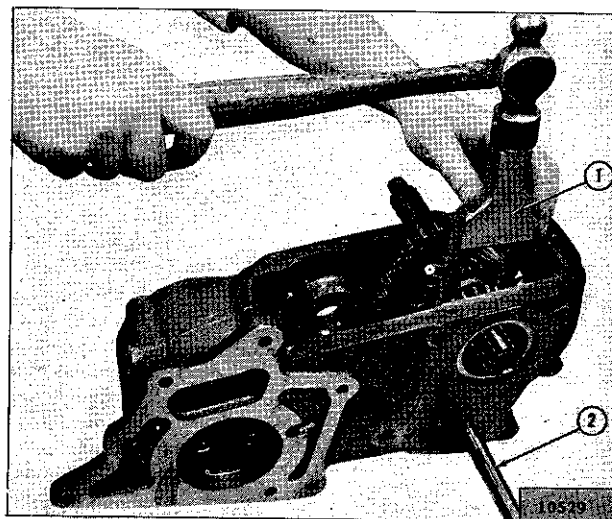

FIG. 225—BEARING CONE REMOVING WEDGE
bearing cup from the case. Use Tool W-139, as shown in Fig. 225, to wedge the front bearing cone and roller assembly from its seat on the shaft. Place Tool W-141 on the output shaft between the front bearing and the output shaft gear, (43). Use a rawhide hammer to drive against the rear end of the output shaft to remove the front bearing cup from the case. Loosen the snap ring (41) and slide it forward on the shaft. Drive the shaft through the rear of the case. As the shaft is removed; the gears, snap ring, and thrust washer will remain in the case and can be removed from the bottom. Remove the rear bearing cone and roller assembly from the shaft by striking the end of the shaft lightly against a wooden block.
j. Remove set screw in sliding gear shift fork (29). This will allow the shift rod to be removed. See the following paragraphs for disassembly of the front and rear bearing caps.